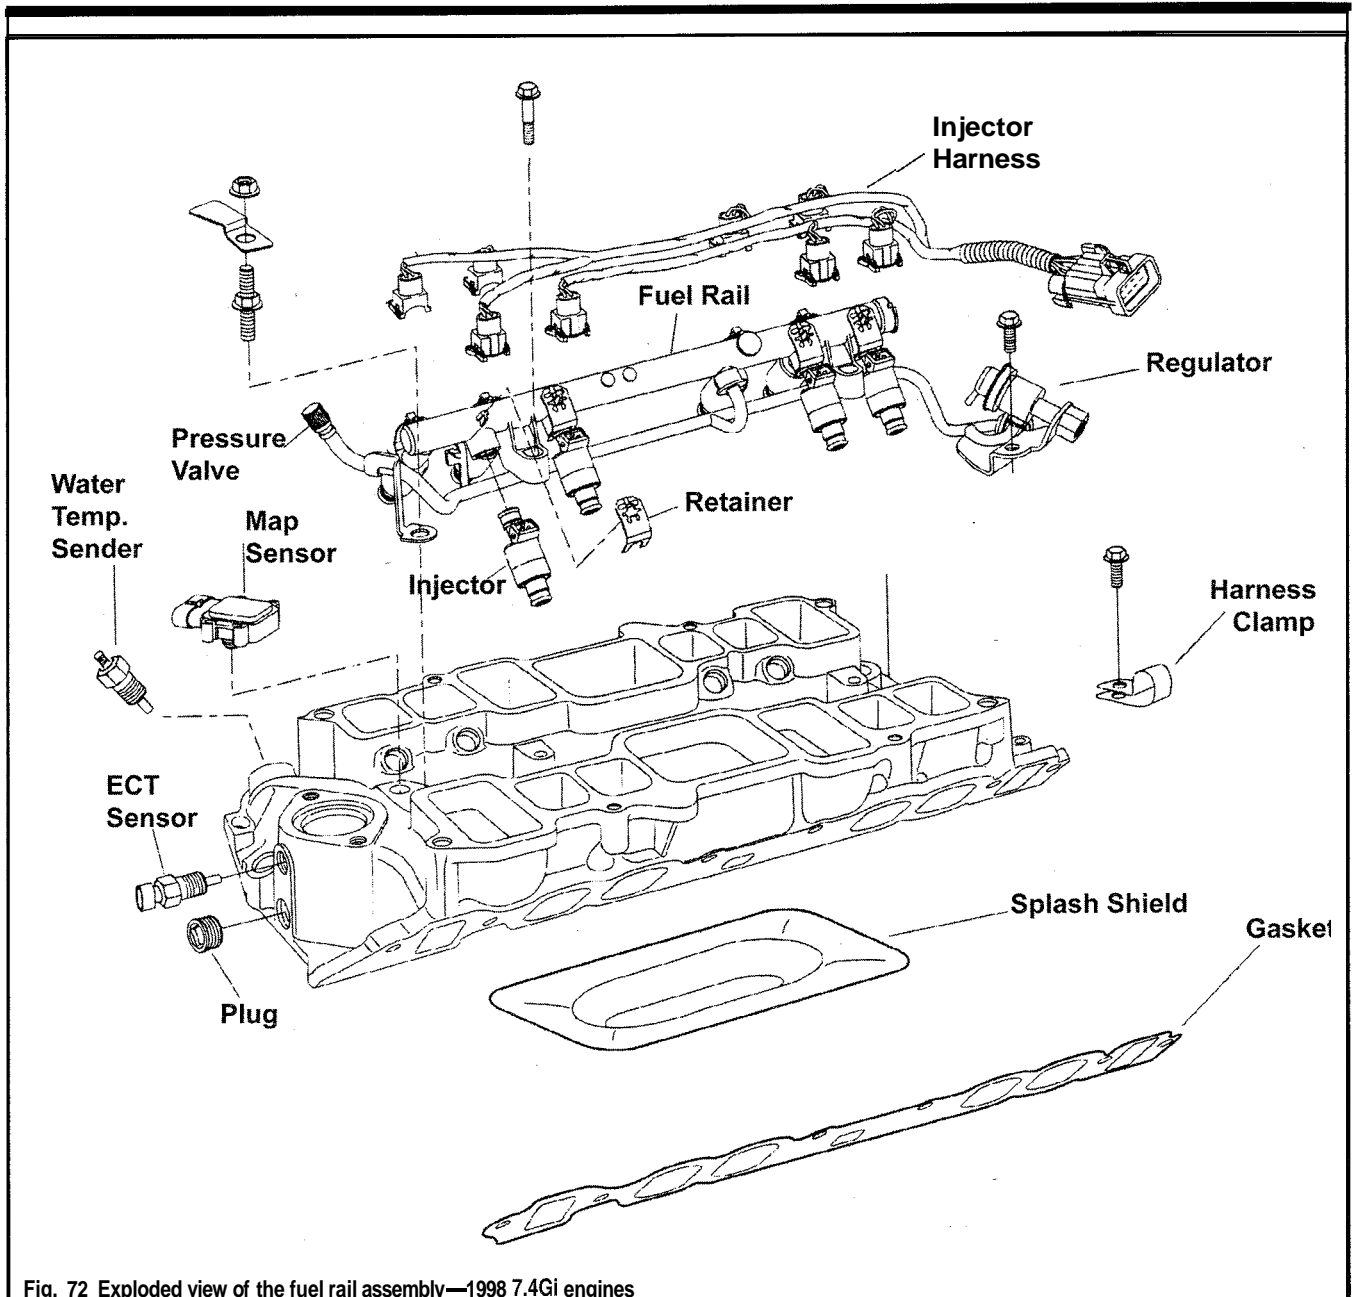

Fig. 72 Exploded view of the fuel rail assembly—1998 7.4Gi engines
- ◆ See Figure 72
+ See Figures 72, 76 and 77